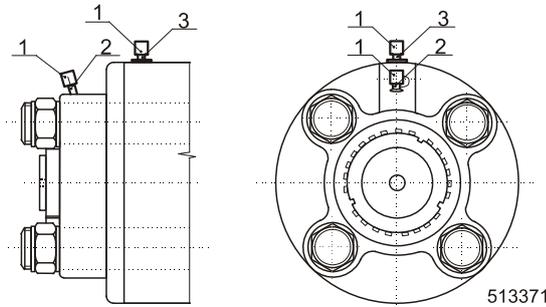

Fig.5.8. Lubrications points
Lubricators of main bearings and sealing are located on the bearing bodies, fig. 5.8. Lubrication point (2) is intended for lubricating the bearing, lubrication point (3) is intended for lubricating the sealing. Put the machine to spinning for approximately 10 min, so that an old grease in bearings warms up. Before you start lubrication of bearings, remove the covers (1) from lubricating plugs. Press the lubricant in slowly and rotate with the drum (it is necessary to brake off mechanically). Remove the surplus extruding grease. Be careful during this activity, so that extruding grease from the rear bearing would not get to the pulley and the breaking disc. After you finish lubrication, put the covers (1) back on lubricating plugs. After lubricating the sealing, extruding grease can get to outer drum space. You will remove extruding grease by putting the machine in operation of boiling without linen - the grease will be rinsed out.